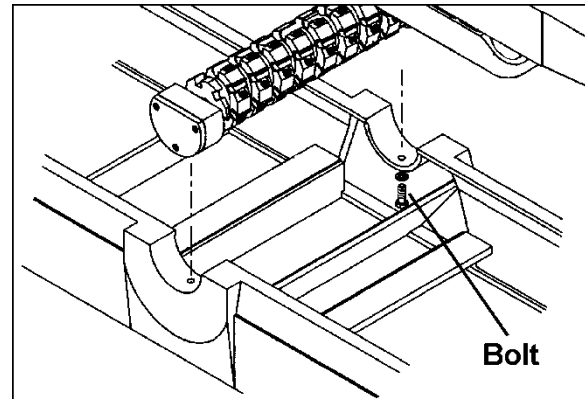

Figure 26
5. Loosen the two bolts that hold the cutterhead to the bed – these are accessed from the underside of the bearing blocks as shown in Figure 26.